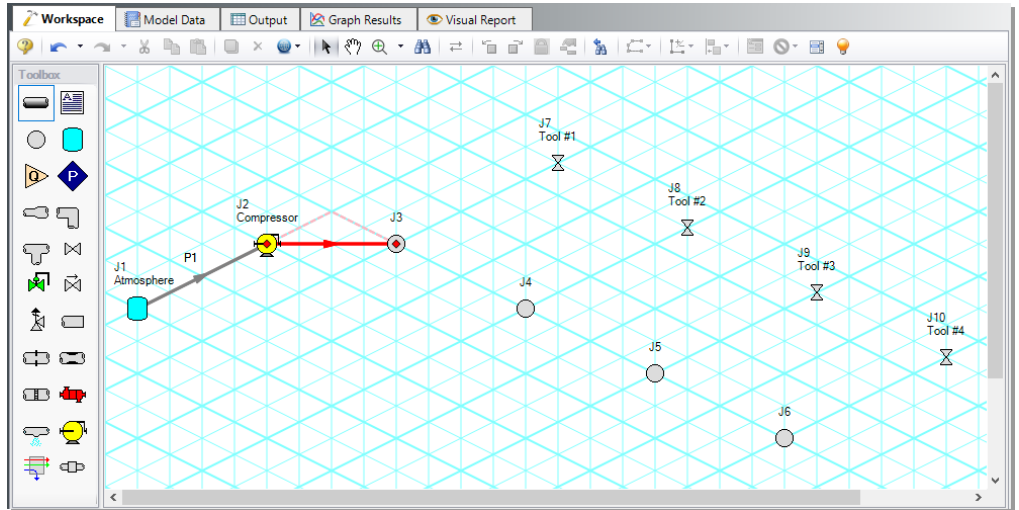

Figure 3.19 A preview line shows when drawing or adjusting pipes in the Isometric Drawing Mode
7. Draw Pipe P1 as shown in Figure 3.19.
8. Draw Pipe P2 from J2 to J3. A red-dashed preview line will show how the pipe will be drawn on the isometric grid. As you are drawing a pipe, you can change the preview line by clicking any arrow key on your keyboard or scrolling the scroll wheel on your mouse. Figure 3.19 shows Pipe P2 being drawn with the preview line.